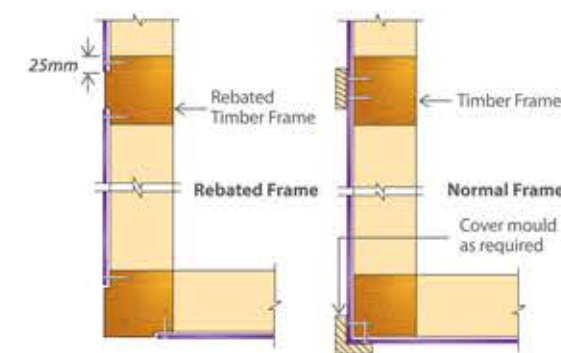

Figure 4. Nail-on Panel Fixing
When **PRIMAlattice** is fixed directly to timber framing, nails must be installed as shown in **Figure 4**. Use only galvanised fibre cement nails. Drive nail head flush with the sheet surface.
3. Apply **PRIMAlattice** and nail in accordance with the recommended nailing pattern. Refer **Figure 4**.